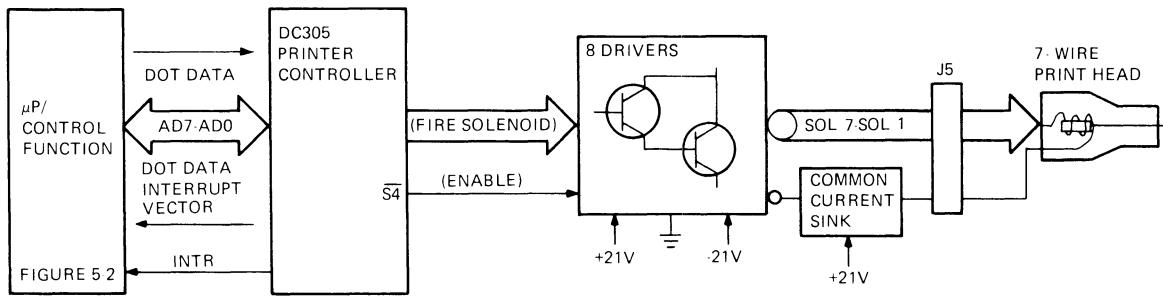

Figure 5-17 Printing Logic
**5.4.4.3 Character Printing** – Figure 5-17 shows the logic connected with the impact printing process. When there is at least one character to print, the microprocessor/ control function first clears, then loads the first-in/first-out dot buffers (dot FIFOs) in the DC305 with the first four columns of character or graphic dot data. The dot FIFOs are used to buffer and transmit character (or graphic) dot patterns from the microprocessor to the printhead solenoid drivers.